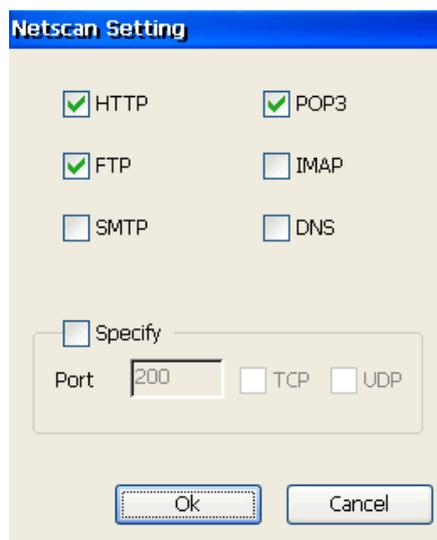

Figure 5.12.2 Netscan Setting
3. **[Setting]:** Set the scanning network service, including HTTP, POP3, FTP, IMAP, DHCP, DNS, SMTP and customized TCP/UDP port number, as is shown in figure 5.12.2.